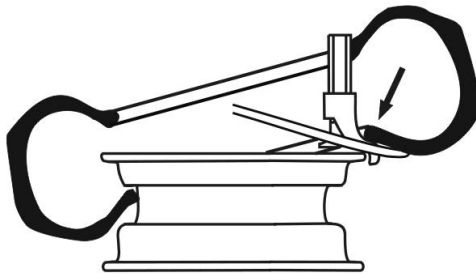

Fig. 25
- Lift wheel, make the bottom edge of wheel onto mounting head as Fig. 25.